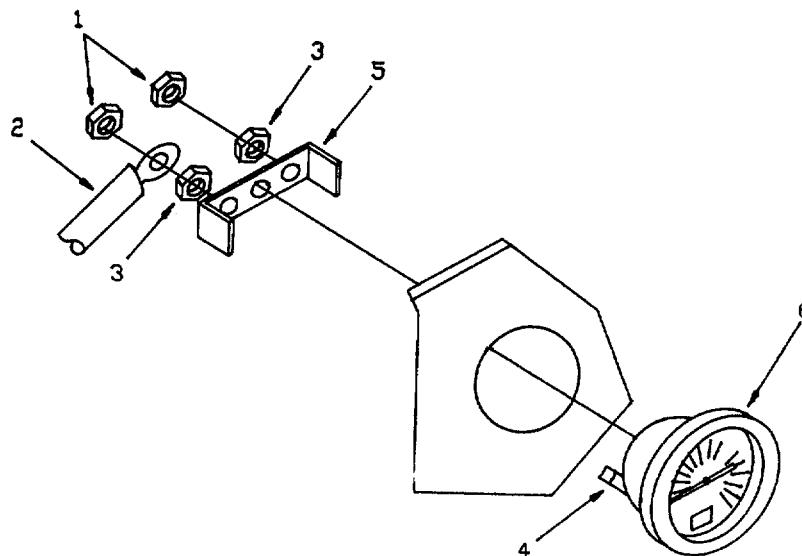

Figure 4-18. Electrical Gage.
- (1) Remove plain hexagon nuts (1, Figure 4-18) from wires (2) on electrical gage (6).
- (2) Disconnect wires (2) from electrical gage (6).
- (3) Remove plain hexagon nuts (3) from terminals (4).
- (4) Remove brackets (5) from gage (6).
- (5) Remove gage (6).
- (1) Install gage (6, Figure 4-18).
- (2) Install bracket (5).
- (3) Install plain hexagon nuts (3) and tighten.
- (4) Install wires (2) to corresponding terminals (4) and remove tags.
- (5) Install and tighten plain hexagon nuts (1).